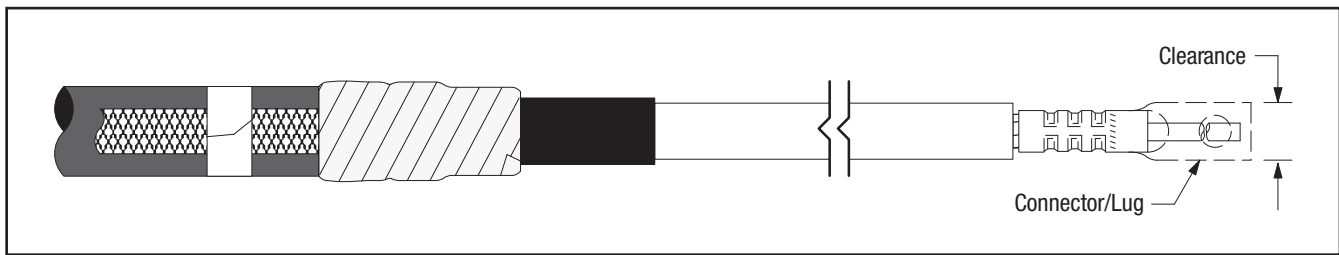

Figure 6
- 4.1 Check to insure 3M™ Cold Shrink QT-III Silicone Rubber Termination assembly fits over the selected lug or connector. If lug or connector (Figure 6) will not fit through the termination core, clean the insulation (per Step 5.0) and slide termination on cable before installing lug or connector.